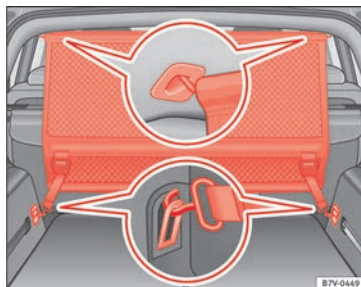

Fig. 166 In the luggage compartment: install the net partition behind the second row of seats.
- Hook in the net partition on the left-hand side roof support » **Fig. 166**. To do this, guide the rod from up to down.
- Secure the net partition hooks into the straps in the front of the boot » **Fig. 166** then tighten the belts.
- Hook in the net partition on the front left-hand side roof support » **Fig. 166**. To do this, guide the rod from up to down.
- Release the net partition hooks from the rings » **Fig. 166**.
- Unhook the net partition on the right-hand side roof support » **Fig. 166** by pressing on the rod.